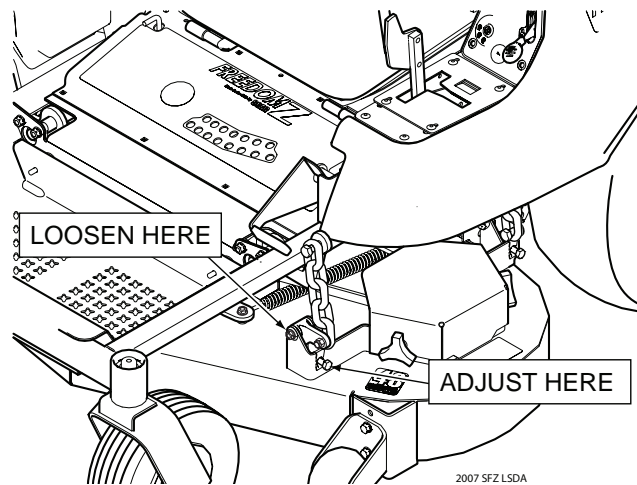

Figure 6-5. Cutter Deck Pitch Adjustment
1. Loosen the elastic stop nuts securing the deck level links on the front of the cutter deck on both sides. See Figure 6-5 and 6-6.
3. Tighten or loosen the adjusting bolt as needed to achieve the 0.015 inch airgap. See Figure 6-5. Perform this operation at all three inspection windows.